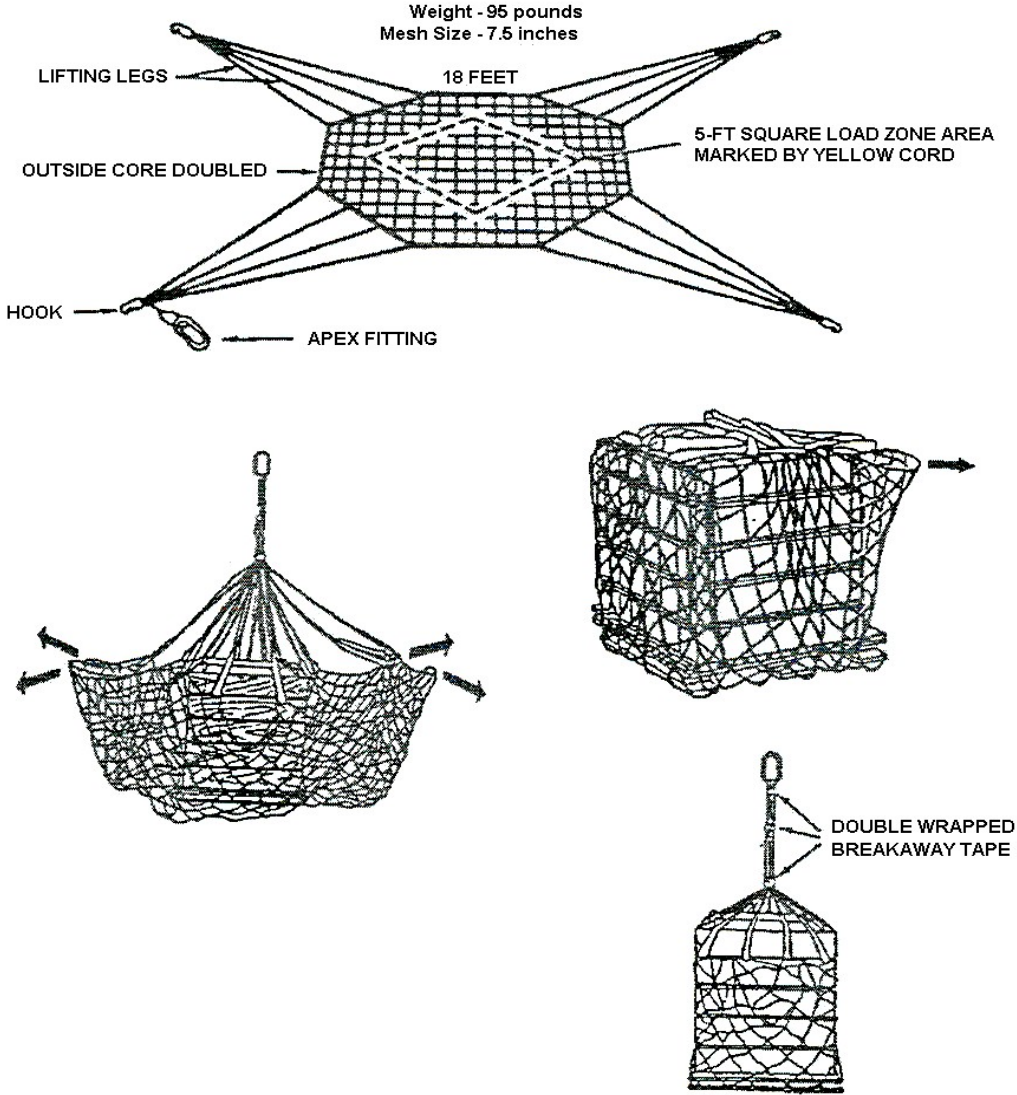

Figure 3-169
2. Make a final inspection of the apex fitting, netting, and taping before hookup to the aircraft, ensuring the net and load is secure (see Figure 3-169).